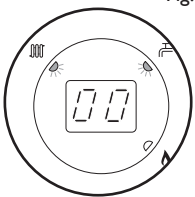

Fig. 104
6. The display will show '00', indicating maximum rate, then revert to 'P' alternating with the current boiler temperature (Figs 104, 105 & 106).